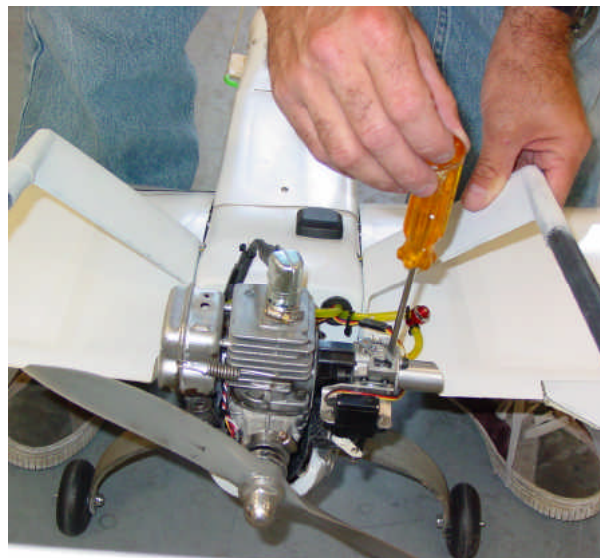

Figure 14. Needle valve adjustment
- If the engine is running, approach the aircraft from the front and stand straddling the fuselage so that the wing leading edges are pressing against the operators legs, as shown in Figure 14.